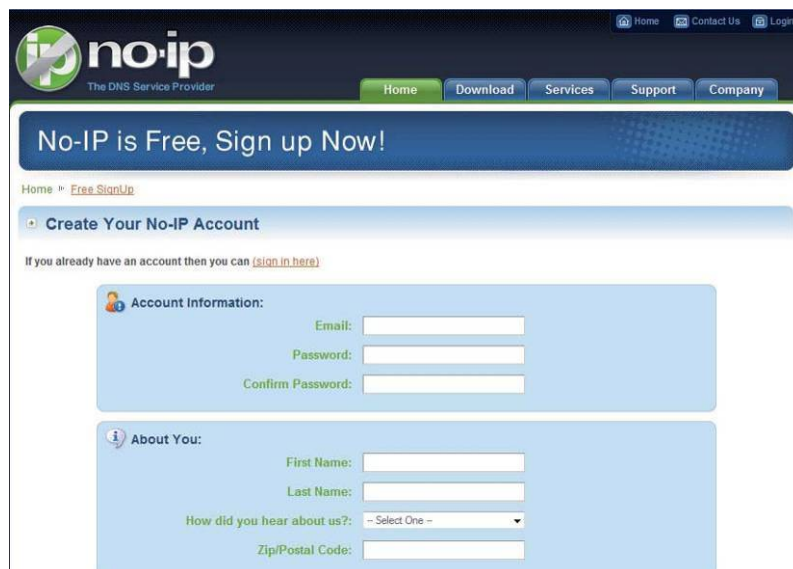

Figure 0-3
2. Left click mouse on the "Create Account" button, account Information interface is shown as in Figure 0-3.